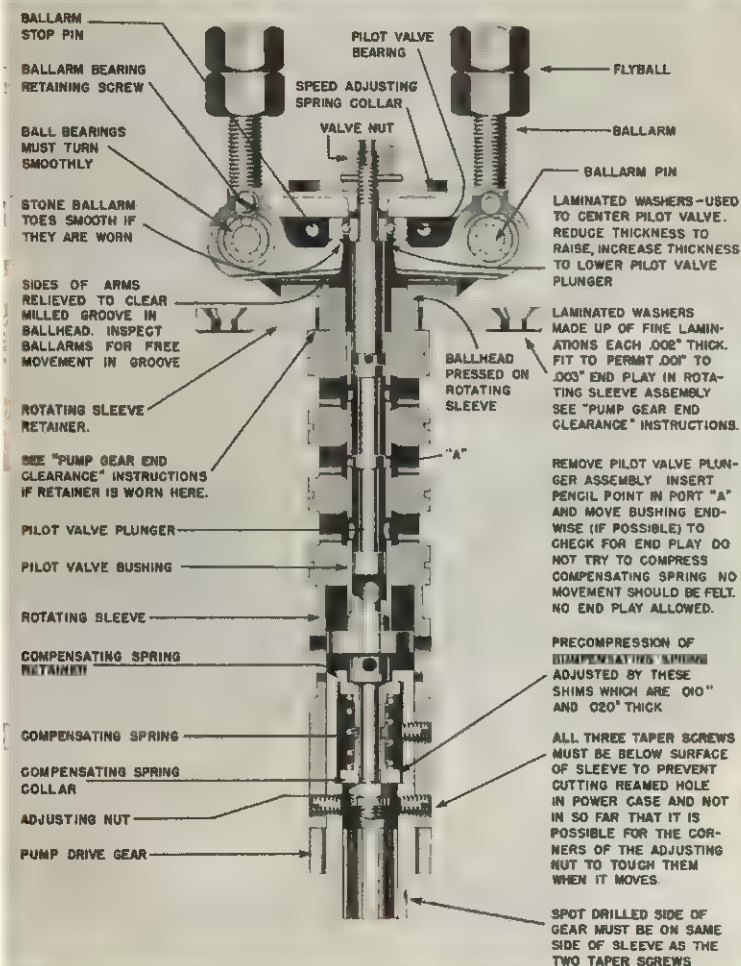

FIG. 5-1
1. Remove three taper screws and pull out pump drive gear, Fig. 5-1.
5. If the pilot valve plunger needs to be raised to equalize the openings, reduce the thickness of the laminated washers between the pilot valve bearing and the shoulder of the pilot valve plunger. If the plunger needs to be lowered, add the necessary laminations to the washer to increase its thickness. Fig. 5-1.
2. Remove pilot valve plunger assembly. See Fig. 5-1.
9. Remove pilot valve if in bushing and check for end play or lost motion of bushing by inserting pencil point in port "A", Fig. 5-1, and attempt to move it endwise with light force in both directions Fig. 18-1. No end play or lost motion allowed.